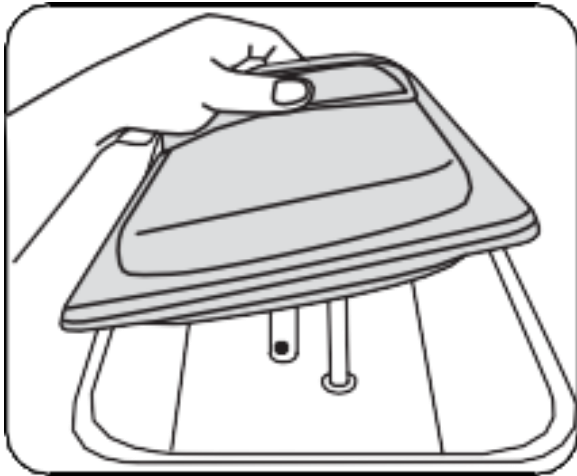
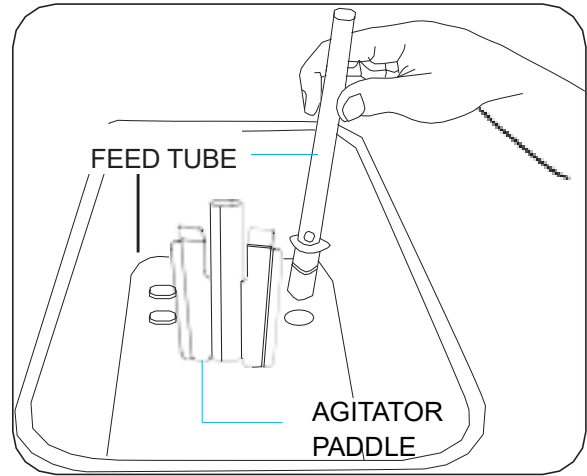

Figure 50
Figure 51
3. Remove the hopper cover (Figure 50) and take out the feed tube, feed tube body and the beater paddle (Figure 51)